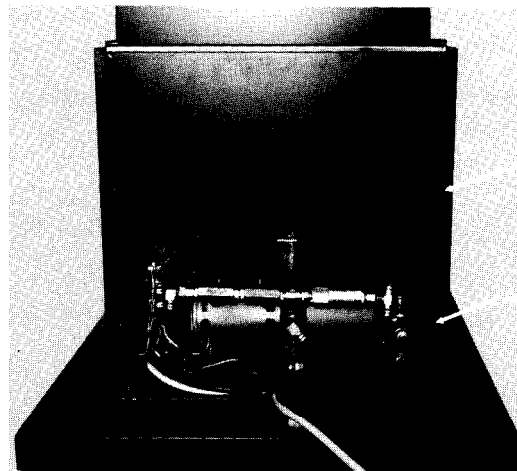

Fig. 11
Remove rear outer shroud by removing (4) small screws, (Item A, Fig. 11).